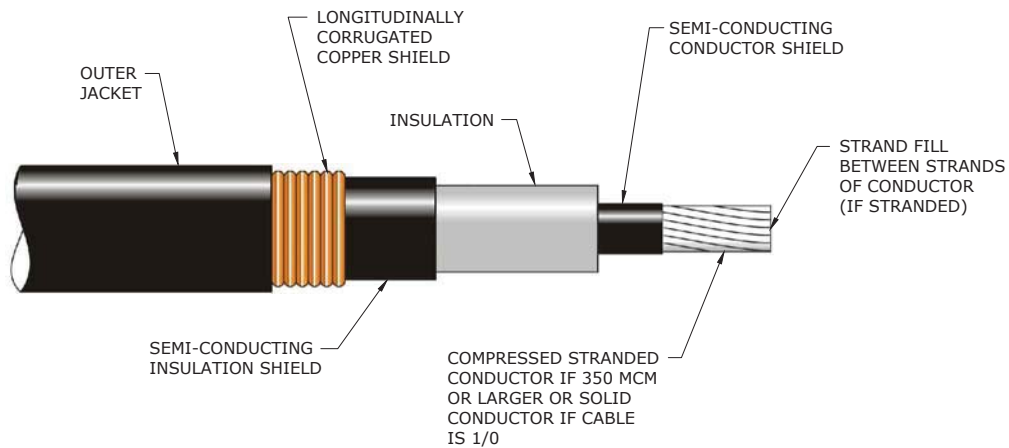

FIGURE 6
MOST DUKE ENERGY PRIMARY CABLES UTILIZE A LONGITUDINALLY CORRUGATED (LC) COPPER SHIELD THAT IS WRAPPED AROUND THE ENTIRE CIRCUMFERENCE OF THE INSULATION SHIELD AND SEALED AT THE OVERLAP. THIS SHIELD DOES NOT HAVE A SPECIFIC THICKNESS (ALTHOUGH MOST ARE CLOSE TO 10 MILS) BUT INSTEAD IS DESIGNED TO HANDLE A MAXIMUM ANTICIPATED FAULT CURRENT FOR A CERTAIN PERIOD OF TIME. SEE FIGURE 6 BELOW.